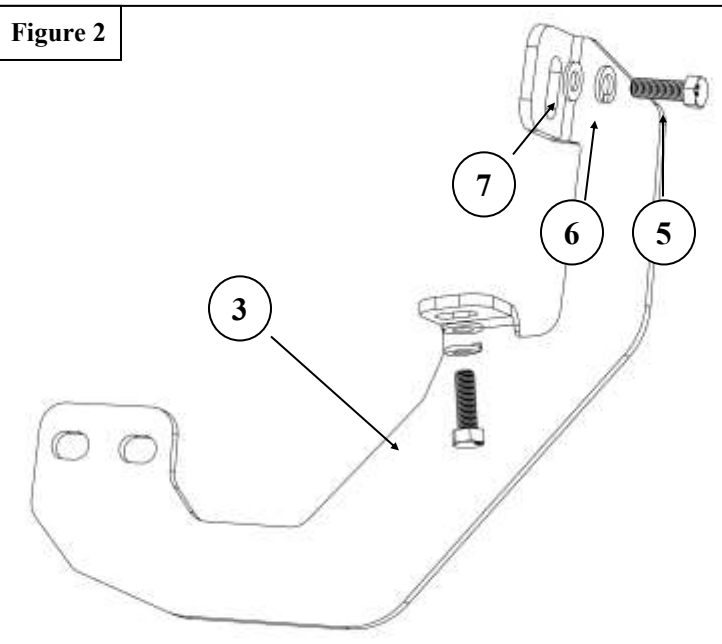

Figure 2
4. At the front driver side location, loosely install the Driver Side Bracket (**Item 3**) with the supplied M8 hardware (**Item 5, 6, & 7**). See **Figures 2 & 3** for reference.